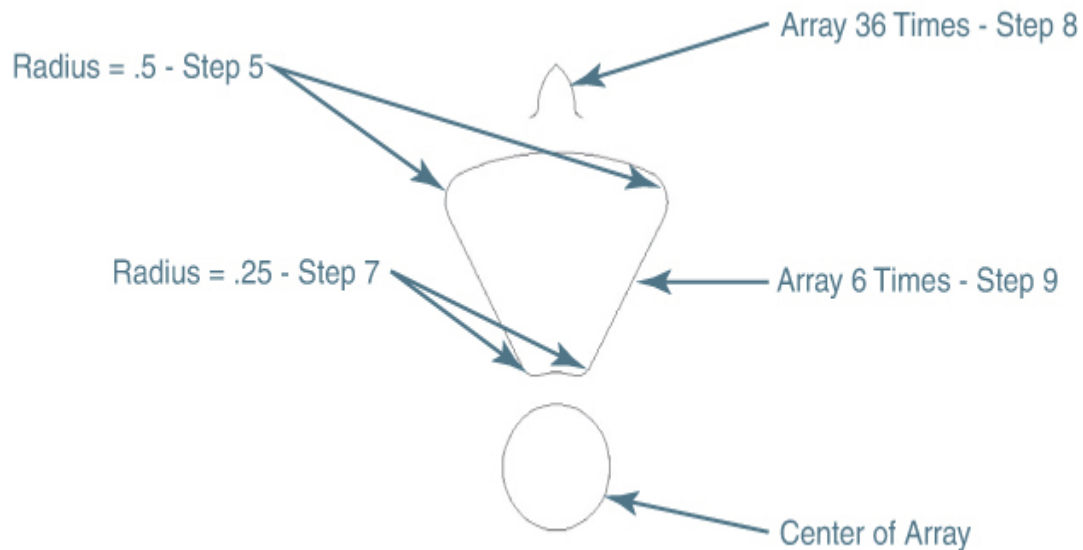

Figure 8-31
- 5 Pick the lines and arc shown in Figure 8-31 to round the outer corners. AutoCAD will round the corners and continue prompting you to select objects.
- 7 Pick the lines and arc shown in Figure 8-31 to round the inner corners. When you've finished rounding the four corners, press **<Esc>** to end the **FILLET** command.